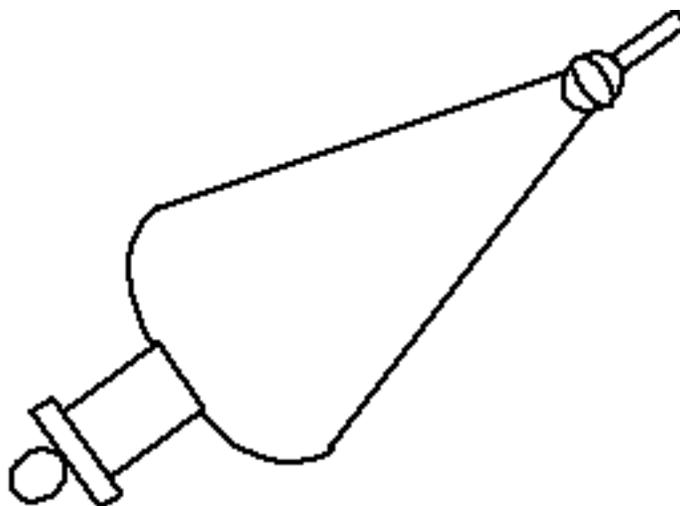

Figure 3. Correct orientation for venting of separatory funnel.
2. Add 75 mL of hexane to the separatory funnel, stopper the funnel, and shake the solutions 3-5 times. Invert the funnel  $\sim 45^\circ$ , and open the valve to vent the separatory funnel (see Figure 3 below). **BE CAREFUL THAT YOU DO NOT POINT THE FUNNEL AT YOURSELF OR ANOTHER STUDENT!!**